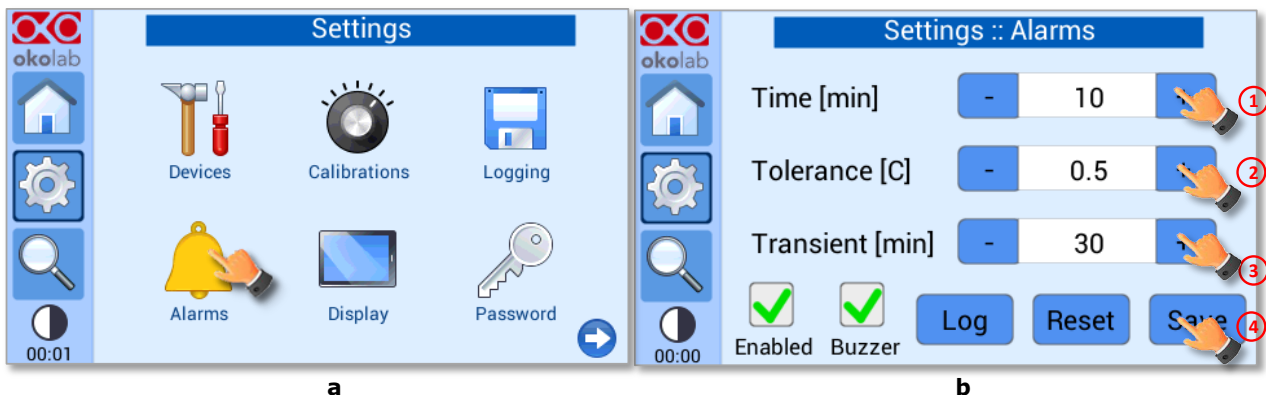

Figure 59. Alarms settings. (a) How to enter the Alarm setting menu; (b) Alarm configuration
To set the alarms specifications, press on the Alarms icon ; see Figure 59(a) then follow the indications below:
- 1 Insert the alarm delay time; i.e. the time for which the temperature of the Heating Devices may remain outside the allowed tolerance before the controller triggers in alarm, see 1 in Figure 59(b)
- 2 Insert the *Tolerance* value, see 2 in Figure 59(b). This value defines the allowed tolerance from the set point.
- 3 Insert the transient time; i.e. the maximum time that the system can take to reach a new set point, without triggering the alarm, see 3 in Figure 59(b).
- 4 Flag the tab labeled *Buzzer* if you want the alarm to be acoustical, additionally to being visual, see Figure 59(b)
- 5 Flag the tab labeled *Enabled* to enable the Alarms logic, see Figure 59(b)